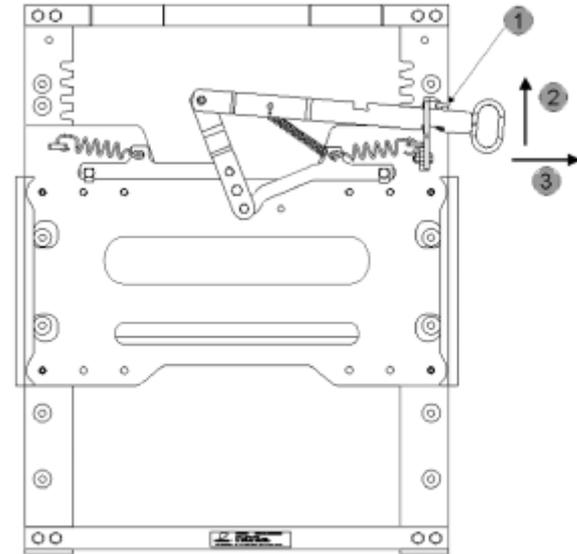

Figure 3 - Slider in locked/closed position ready for operation
6. Release the handle (by pushing the handle towards the rear of the truck) and ensure that the outer handle notch returns to the locked position (see Figure 3)